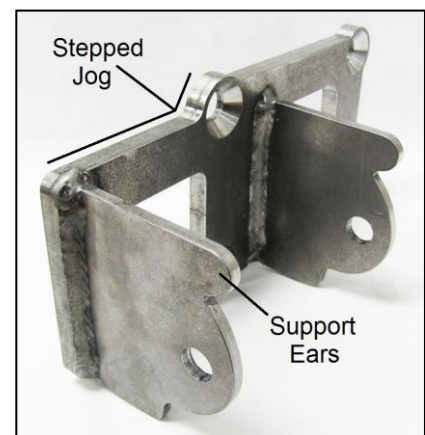

Figure 1 – Driver's side mount
4. Attach the included left and right side Hooker Blackheart engine brackets to the engine. The proper indexing and left/right orientation of the brackets is achieved by ensuring the profiled clamshell **support ears** are positioned towards the front of the engine and the long **stepped jog** along the outer profile of the base plates are positioned up towards the top of the engine (**Figure 1**).